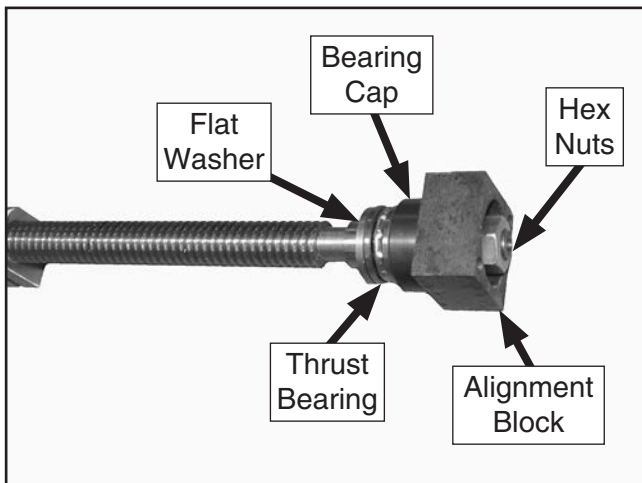
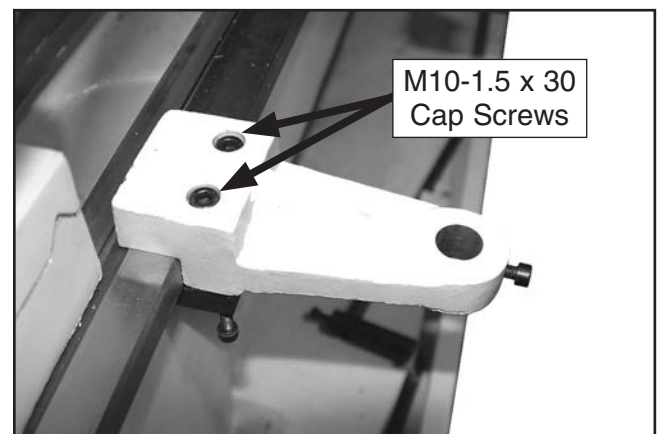

Figure 15. Alignment block installed on taper attachment leadscrew.
Figure 20. Bed clamp bracket and block attached to bedway (top view).
21. Keeping the component order on the end of the taper attachment leadscrew the same as it was shipped (minus the alternate bracket), install the alignment block you removed in **Step 20** between the bearing cap and hex nuts, as shown in **Figure 15**.
23. Rotate the alignment block at the end of the leadscrew (see **Figure 15**) so the orientation of the threaded holes will match the orientation of the cap screws in the pivot block when it is installed inside the taper attachment body (see to **Step 31** and **Figure 20** on **Page 7** for orientation reference).
35. Attach the bed clamp bracket and bed clamp block to the bedway between the tailstock and taper attachment, using (2) M10-1.5 x 30 cap screws and (2) M6-1 x 35 cap screws, as shown in **Figures 20–21**. Leave the bracket loose enough on the bedway so that you adjust its position.